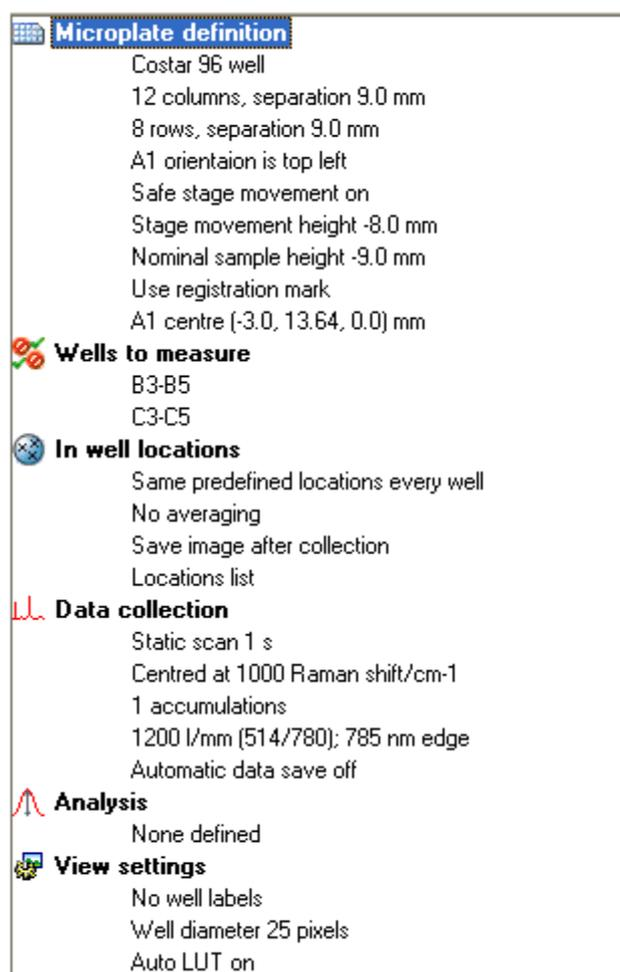
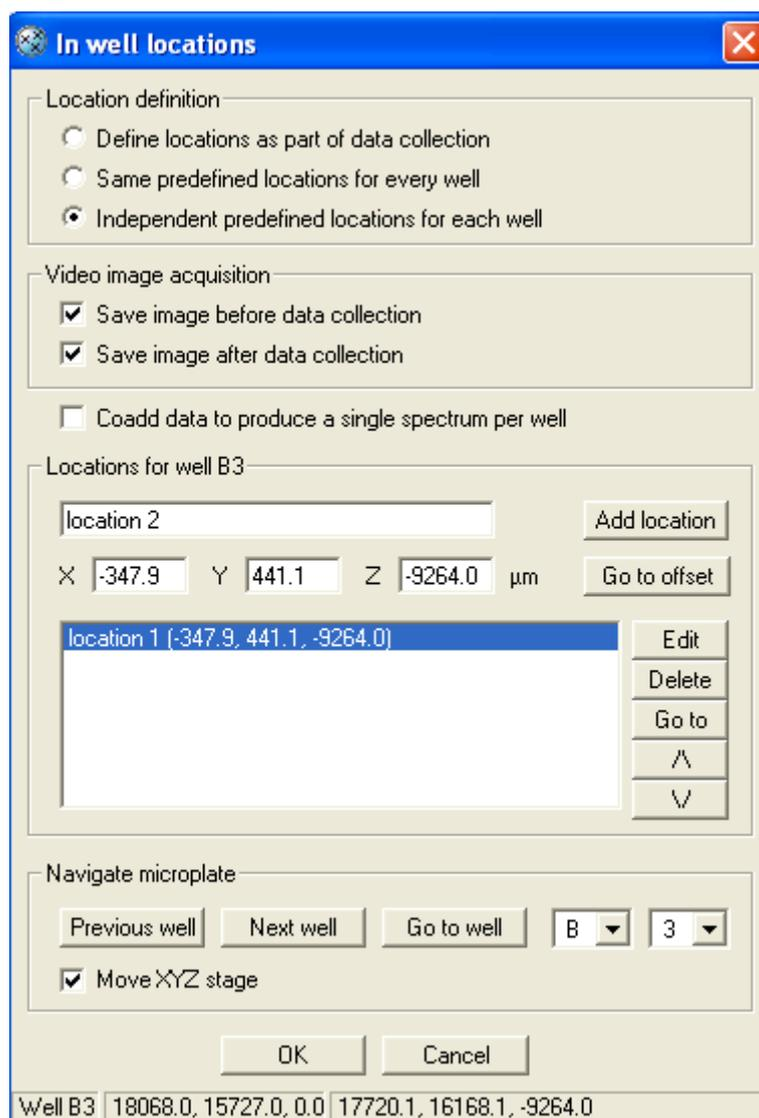

Figure 1 Micro-plate mapping menu
Figure 6 Defining the In well locations
- 3a. Right click on Micro-plate *definition*, in the measurement tree on the left-hand side of the screen (Figure 1), and select *Configure*. Click on *Add*, and enter a name for the Micro-plate. Enter the number of rows and columns on the Micro-plate and the distances between wells. Select the correct orientation of the Micro-plate at the bottom of the Micro-plate *definition* window, as determined in 1.
1. Right click on *Wells to measure* (Figure 1), and select *Configure*. Check the boxes of the wells to measure. The column and row headings can be clicked on to select or deselect all the boxes in that row or column. **This mask overrides the *In well locations* menu, so that only wells selected here will be measured.**
2. Right click on *In well locations* (Figure 1), and select *Configure*. One of three methods of defining locations can be selected (Figure 6).
1. Click *OK* in the *In well locations* window. Select the scan conditions required by right clicking *Data collection* (Figure 1), then selecting *Configure*.
2. Select the scan conditions required by right clicking *Data collection* (Figure 1), then selecting *Configure*.
3. Select the desired scan conditions by right clicking *Data collection* (Figure 1), then selecting *Configure*.